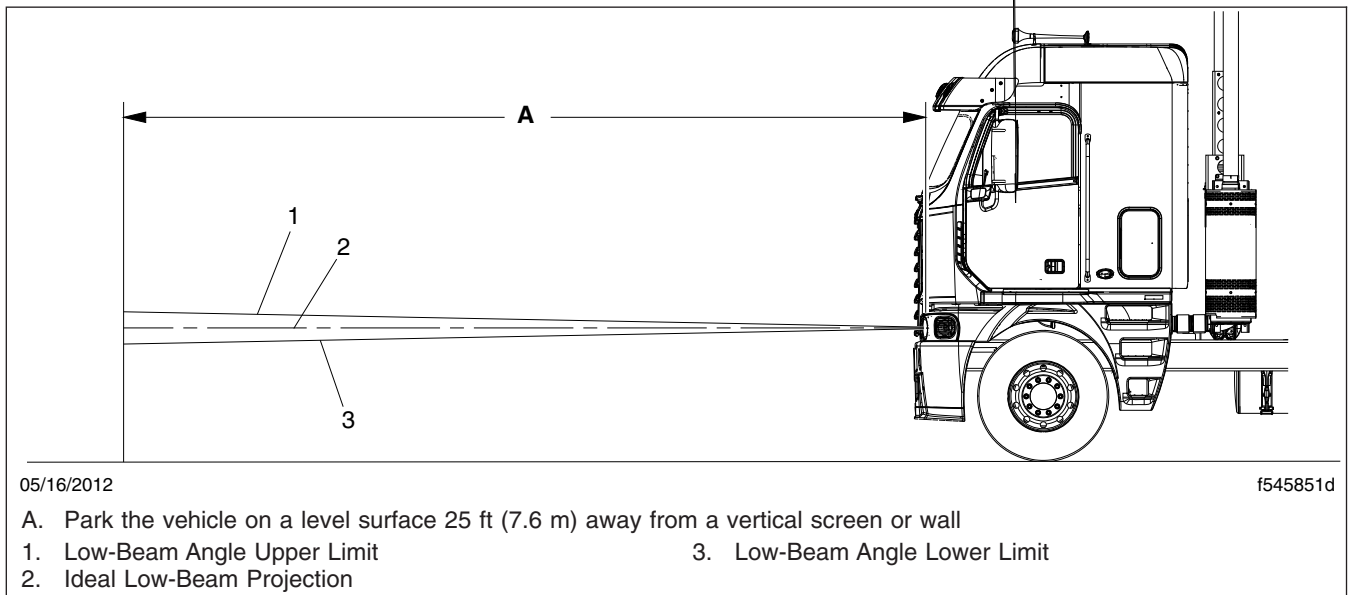

Fig. 19.3, Vertical Low-Beam Headlight Variation Limits
5. Check the vertical adjustment of the low beams. The center of each beam projection should fall on or near the marks made during step 3. See Fig. 19.3.